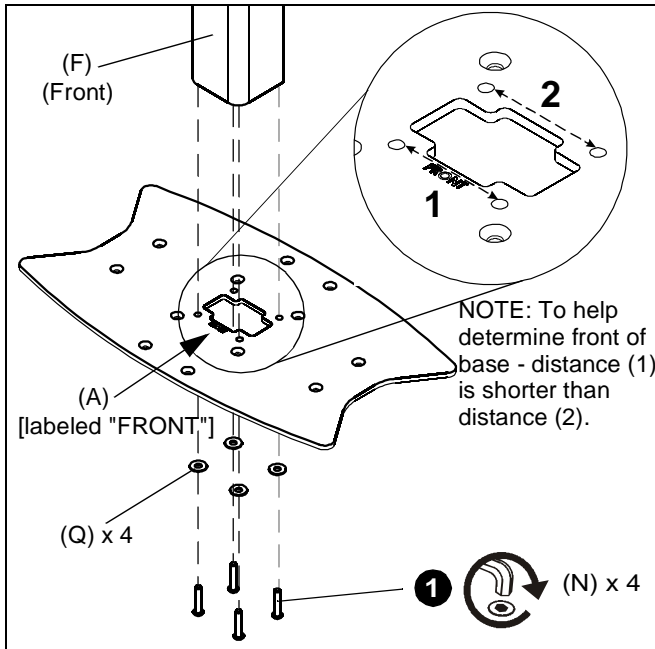

Figure 1
1. Attach top base section (A) to the center post (F) using four 5/16-18 x 1-1/2" buttonhead cap screws (N) and four 5/16" flat washers (Q). (See Figure 1)
NOTE: Ensure that post (F) front is placed to the front of base section (A). Check for "FRONT" on base section (A). (See Figure 1)
1. Follow Step 1 (and Figures 1 and 2) of **Assembling Base for Single Display Stand**.